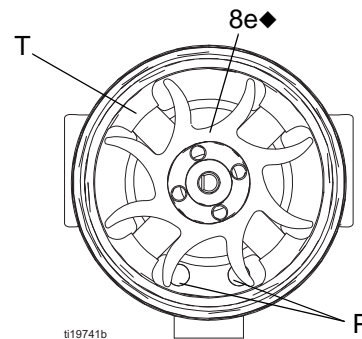

Fig. 37. Fan Orientation
Replace turbine bearings after 2000 hours of operation. Order Part No. 24N706 Bearing Kit. Parts included in the kit are marked with a symbol (◆). See FIGURE 37 through FIGURE 39.
12. Hold the coil assembly (8a) on a workbench with the fan end facing up. Press the fan (8e.) onto the long end of the shaft (S).The fan blades must be oriented as shown in FIGURE 37.